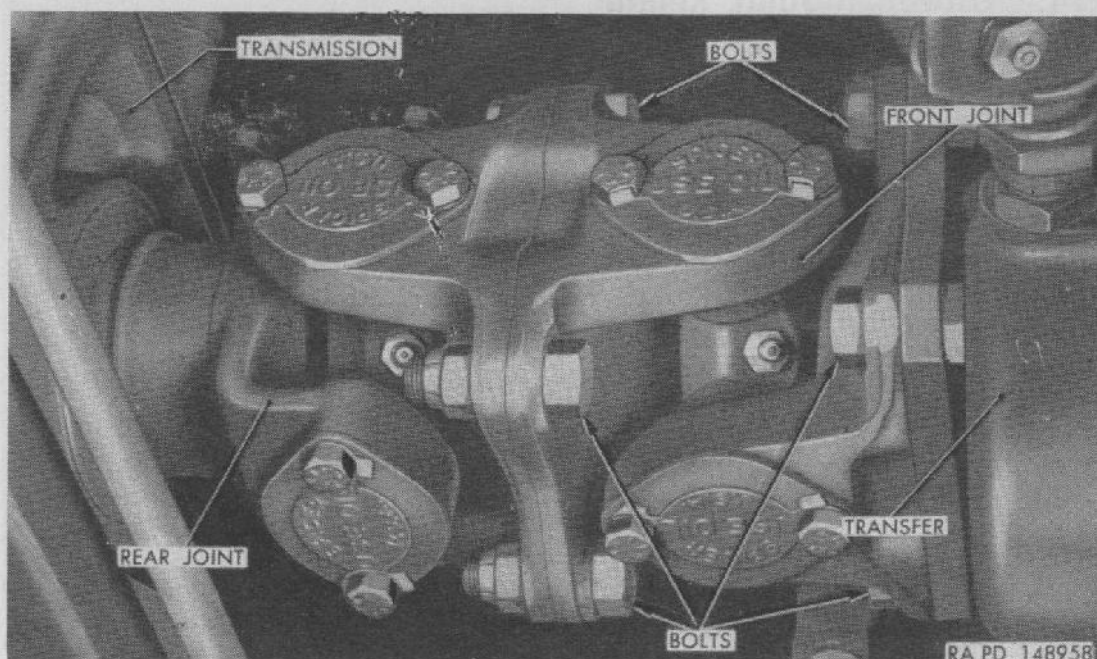

Figure 125. Transmission-to-transfer propeller shaft installed.
c. TRANSMISSION-TO-TRANSFER PROPELLER SHAFT (fig. 125). Power from transmission to transfer is through two universal joint assemblies which are bolted together thus eliminating shaft usually used. Slip joint between transmission and transfer is through splined yoke which engages transmission output shaft.
c. **TRANSMISSION-TO-TRANSFER SHAFT REMOVAL.** Remove four bolts and nuts attaching two universal joints together; also remove four nuts and bolts attaching rear joint flange to transfer flange (fig. 125). Remove rear universal joint. Slide front universal joint toward rear and off transmission output shaft.